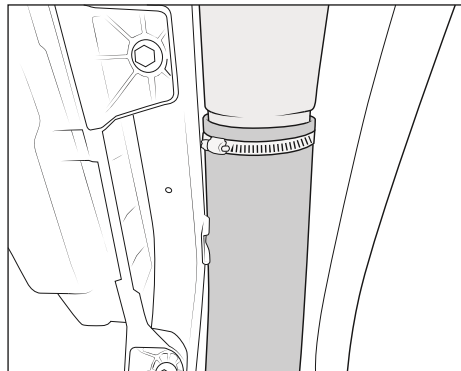

Figure 18 : Shown from below
8. Reinstall the fender and main body back onto the truck for the final time, being sure to insert the main body outlet into the inlet of the plastic component installed in the previous step (fig. 18).